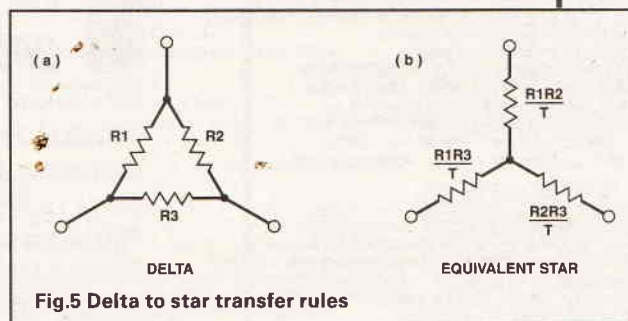

Fig.5 Delta to star transfer rules
**Using The Transform In Figure 5**